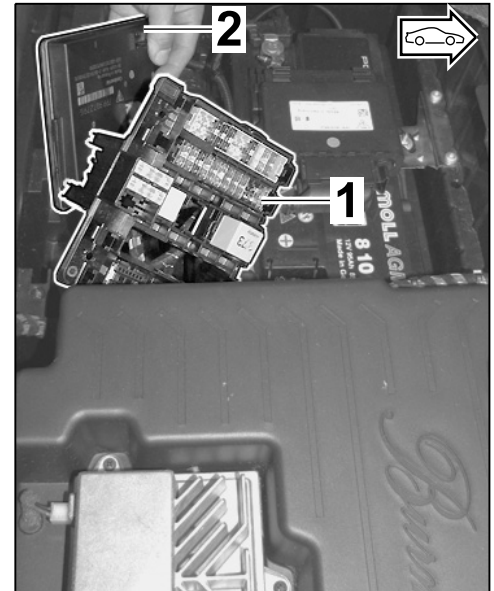

Figure 24
3.1.2 Open the cable duct, loosen the fuse box (⇒ *Workshop Manual '978409 Loosening and securing fuse box'*) and remove control unit for rear-end electronics (⇒ *Workshop Manual '578919 Removing and installing control unit for rear-end electronics'*, ⇒ *Figure 24*).